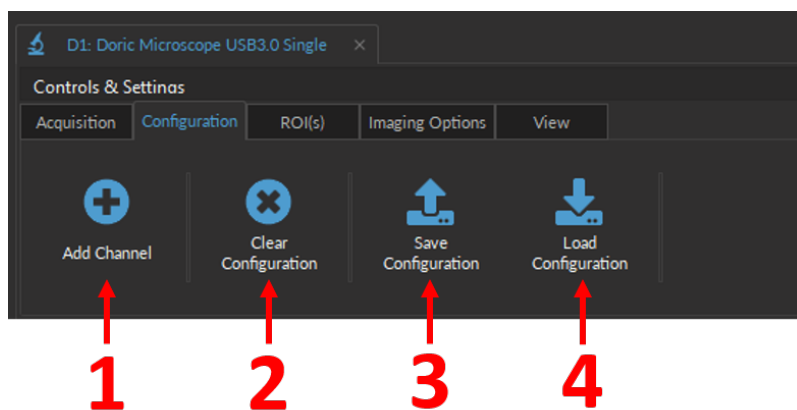

Figure 5.14: Configuration Tab
The **Configuration** tab (Fig. 5.14) is used to set the channels and their configuration.
1. The **Add Channel** button (Fig. 5.14) is used to add the Digital I/O.
2. The **Clear Configuration** button (Fig. 5.14) is used to delete all the Digital I/O configured and reinitialize the microscope parameters.
4. The **Load configuration** button (Fig. 5.14) will load a selected configuration file.